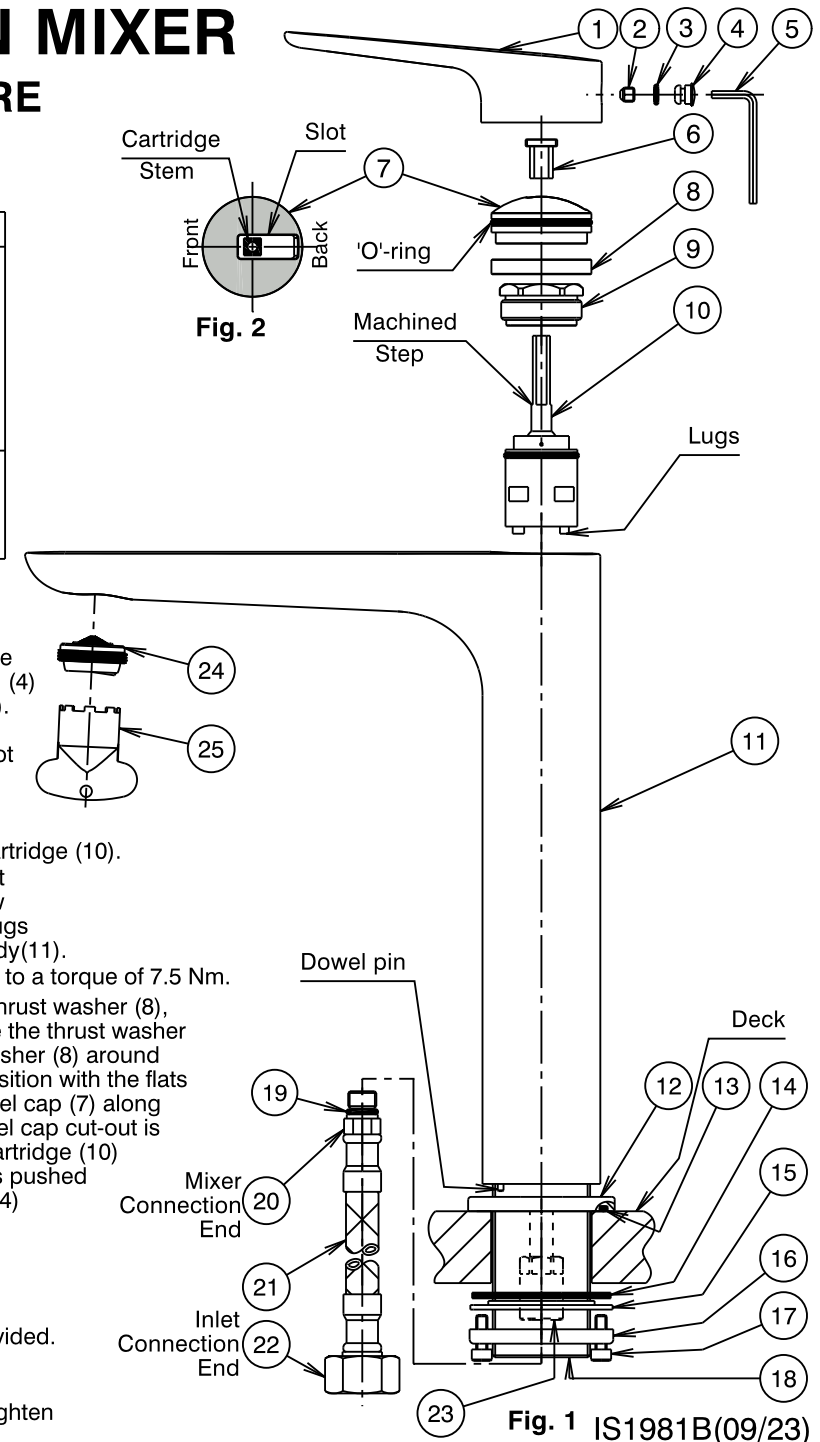

Fig. 1 IS1981B(09/23)
- 1) From fixing pack fit 'O'ring (13) into groove in base ring (12). Slide the base ring (12) over the threaded tube (18), align dowel pin at underside of body (11) with the hole at base ring (12) & locate spigot of base ring (12) into base of mixer body (11), as shown in Fig. 1.
- 2) **Flexible Tail Mixer Connections:** Apply suitable lubricant to 'O'rings (19). Fit flexible tail (21) (with red indication) into extended tail (23) marked with a Red Dot. Hand tighten the tail, ensuring the 'O'ring (19) has fully entered the sealing bore to provide a watertight joint. Fit other flexible tail (with blue indication) into remaining extended tail (23) in a similar manner.
- 3) Insert the inlet connection end (22) of each flexible tail (21) through the hole in the deck. Place mixer into deck hole, fit washer (14) followed by fixing plate (15) over threaded tube (18) then screw the fixing nut (16) followed by tightening the fixing screws (17) until the mixer body is secure.
- 4) **Flexible Tail Inlet Connections:** Connect the flexible tails (21) to the hot and cold isolating stop taps, hand tighten the fixing nut (22) until rubber cone contacts the sealing face of the connection end, then tighten a further one turn to provide a watertight joint.